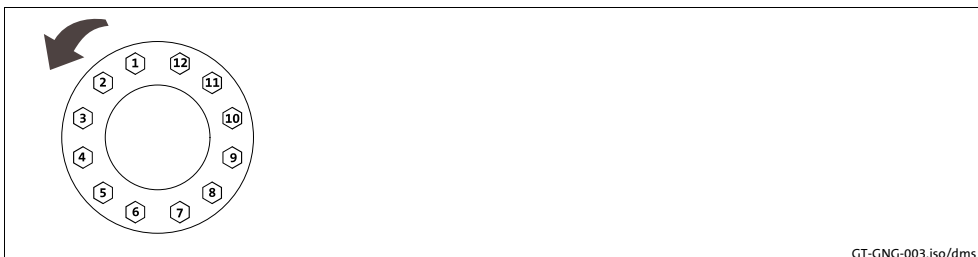

Fig. 14 Explanation: "one after the other"
4. Slightly loosen clamping screws (2) one after the other, do **not** unscrew!
7. Tighten clamping screws (2) one after the other (see Fig. 14) in several passes, with rising torque, evenly until the indicated screw-tightening torque (see Tab. 6) is reached at all screws.